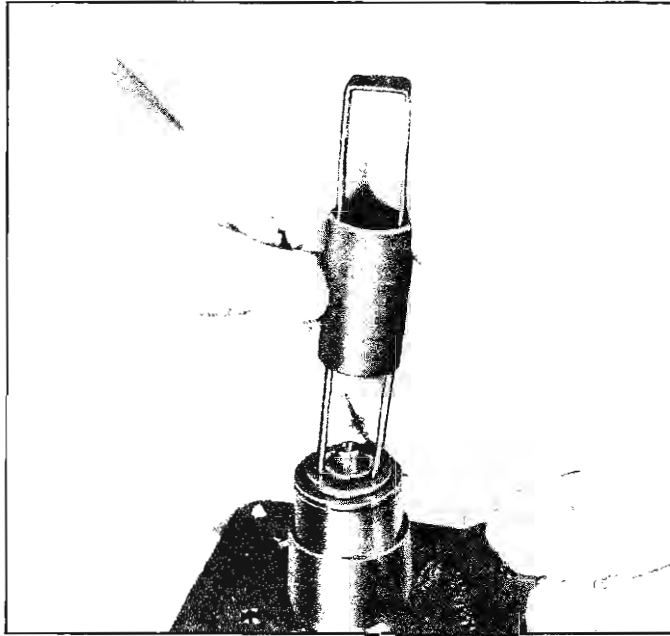

Fig. 23—Removing Seal Seat
3. Using Tool J-9393 (1 and 2), grasp the flange on the seal seat and lift out the seal seat (fig. 23).